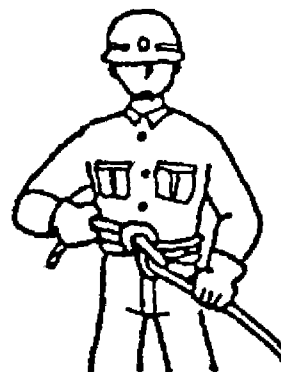

Fig. 3-28-7
- g. Hold the rising end with your right hand, the hanging portion with your left hand, and tighten. (Fig. 3-28-7)